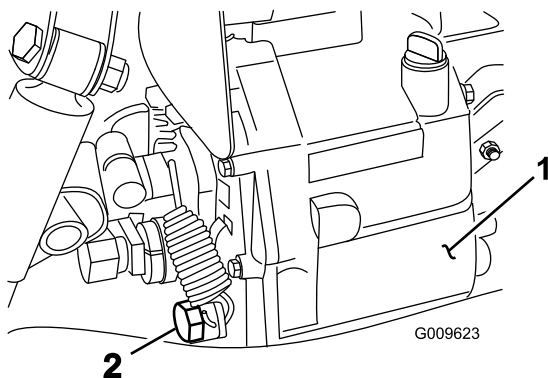

Figure 58
2. Remove drain plug from side of reservoir and let hydraulic fluid flow into drain pan (Figure 58). Reinstall and tighten plug when hydraulic fluid stops draining.
2. Remove drain plug (Figure 58) from side of reservoir and let hydraulic fluid flow into drain pan.